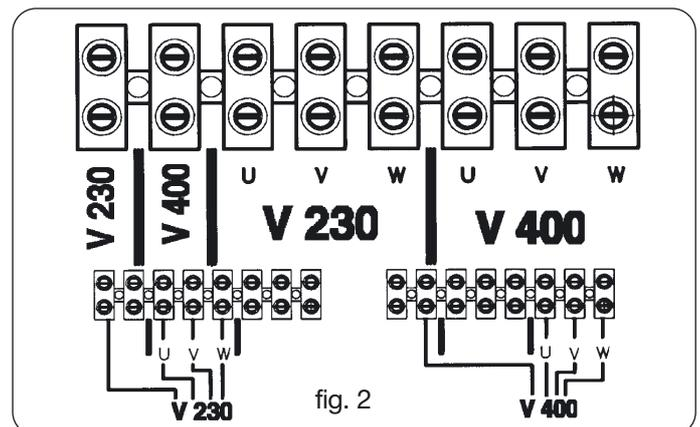

fig. 2
- To change the supply voltage, remove the right side panel and arrange the voltage change terminal board connections as shown in the figure 2.